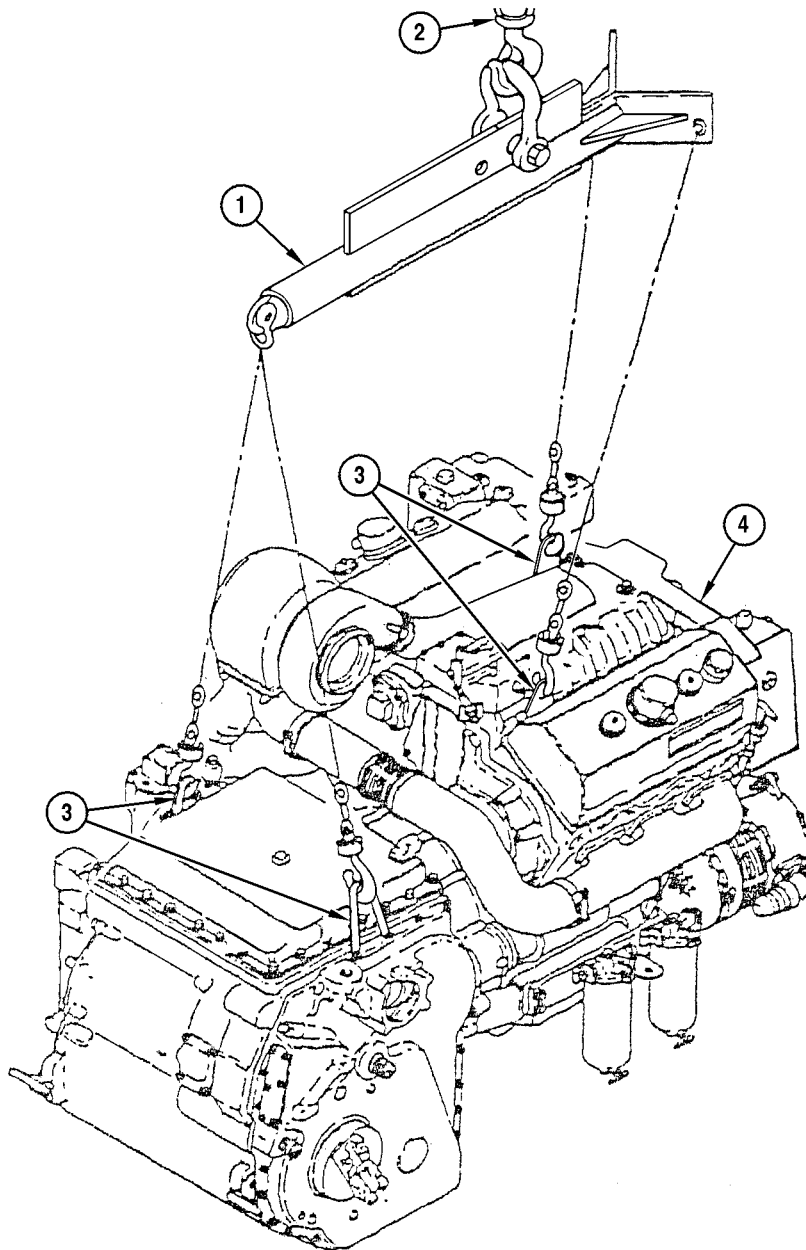

Figure 4-1. M113A3/M548A3 Powerplant
1. Attach powerplant sling (1) to lifting device (2) of at least 3,000 pounds (1,362 kg) capacity. See Figure 4-1.
2. Attach powerplant sling (1) to lifting brackets (3) and lift powerplant assembly (4). Have helper assist. See Figure 4-1.